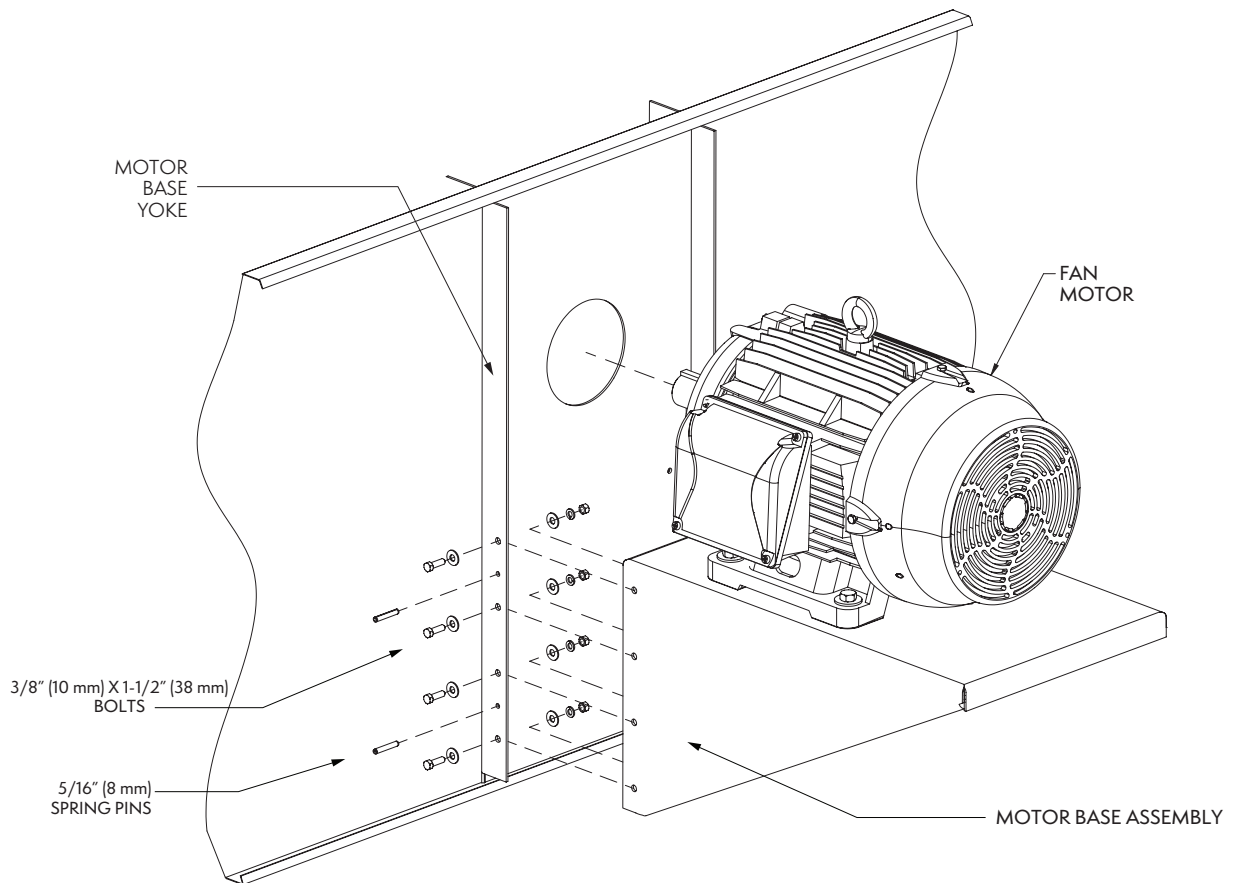

Figure 32 – External Motor Installation for Gear Drive Applications
1. Mount the motor base assembly to the motor base yoke using (4) 3/8" (10mm) x 1-1/2" (38mm) grade 5 bolts, flat washers, lock washers, and nuts on each side of the motor base assembly. Do not fasten any hardware until step 2 is complete.
2. In addition to the grade 5 bolts, install (2) 5/16" (8mm) spring pins on each side of the motor base assembly as shown in **Figure 32**.